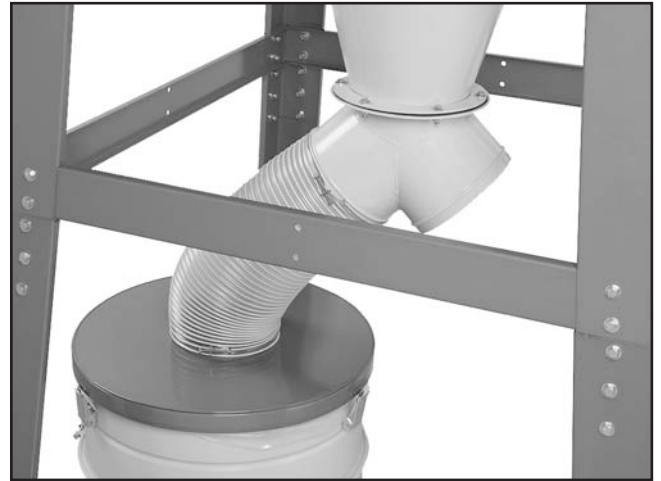

Figure 39. Dust collection drum assemblies connected to funnel port.
49. Connect the dust collection drum assemblies to the funnel port with the 9" flexible ducts and 9" duct clamps (see **Figure 39**).